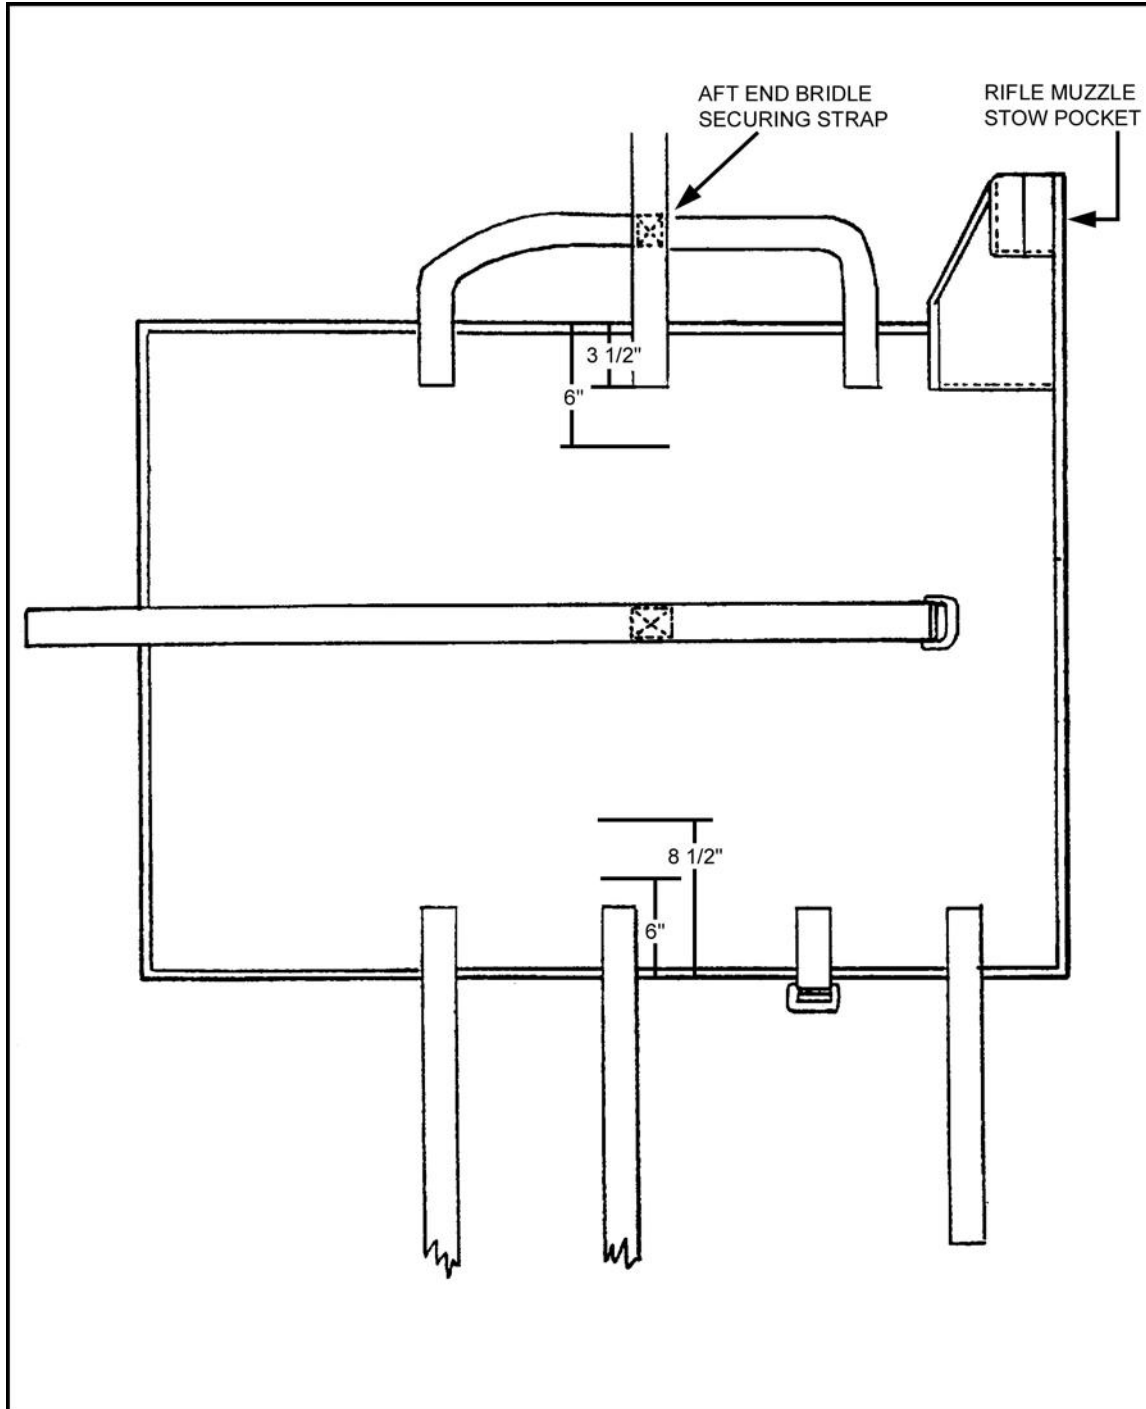

Figure 12-62. Stitching removed and DMJP markings.
c. Locate the point where the aft end bridle securing strap crosses the U-shaped portion and is sewn. Cut and remove this stitching, being careful to not damage the straps (Figure 12-62).
d. From this side of the DMJP, measure and make two marks at 3 1/2 inches and 6 inches. From the other side of the DMJP, measure and mark at 6 inches and 8 1/2 inches (Figure 12-62).